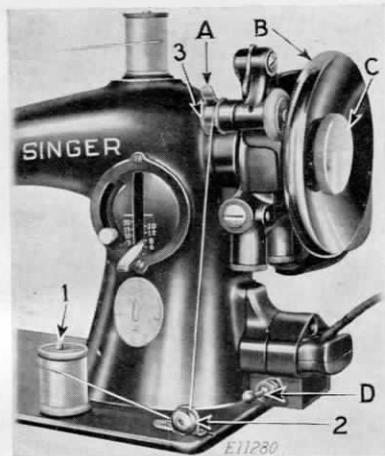

FIG. 7. WINDING THE BOBBIN
Push the terminal plug at one end of the electric cord as far as it will go on the three-pin terminal block at the right of the machine, as shown in Fig. 7. Attach the plug at the other end of the cord to the nearest electric outlet and the machine is ready for operation.
To turn the Singerlight "on" or "off", a switch is conveniently located at the front of the three-pin terminal block, as shown at D, Fig. 7.
It is necessary to understand the stop motion (C, Fig. 7) by which the balance wheel (B, Fig. 7) can be released when required, thus permitting the winding of bobbins without running the stitching mechanism.
the small pin in the shoulder enter the hole in the side of the bobbin. Put the spool of thread on the spool pin (1). Draw the thread under and between the tension discs (2) on the bed of the machine, then pass the thread up and through the hole (3) in the left side of the bobbin, from the inside. Press down on the bobbin and the bobbin winder latch (A, Fig. 7) will drop down and hold the bobbin winder pulley against the hub of the balance wheel. Then press the treadle the same as for sewing.
If the thread does not wind evenly on the bobbin, loosen the screw which holds the tension bracket (2, Fig. 7) in position on the bed of the machine and slide the tension bracket to the right or left, as may be required, then tighten the screw.